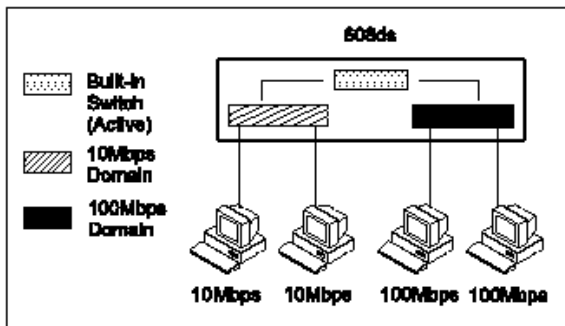

Figure 3-1 Separate domains in ALH-608ds.
- For stand-alone one, the ALH-608ds consists of separate 10Mbps and 100Mbps network domains with one built-in switch to inter-connect the data in domains, as shown in *Figure 3-1*.